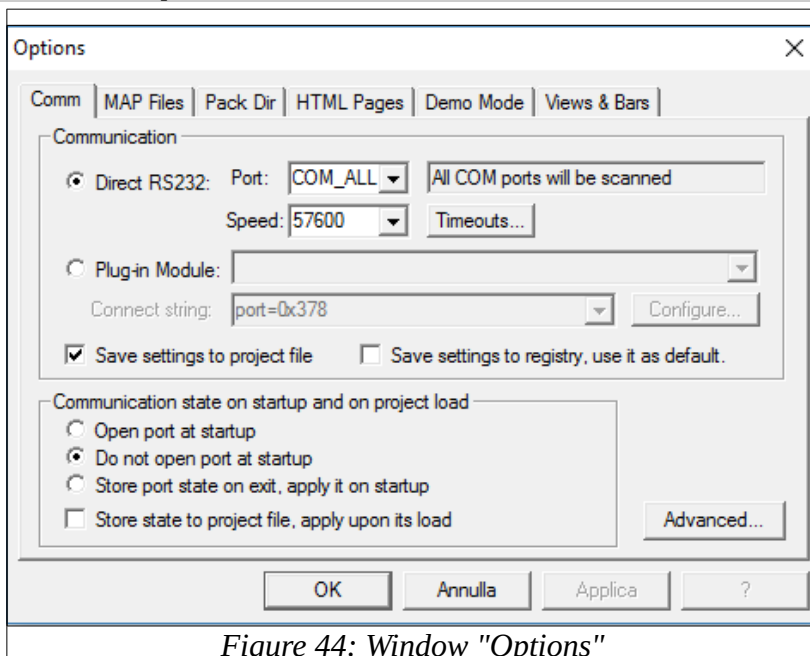

Figure 44: Window "Options"
- Set the values as in the figure 44.